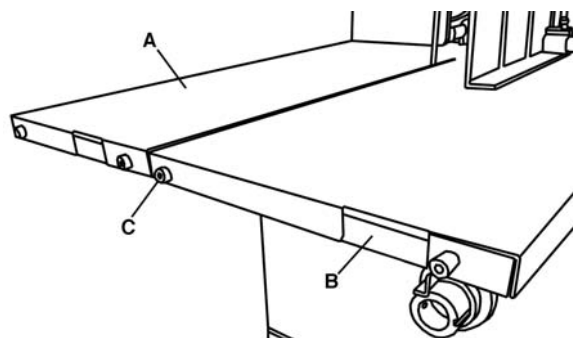
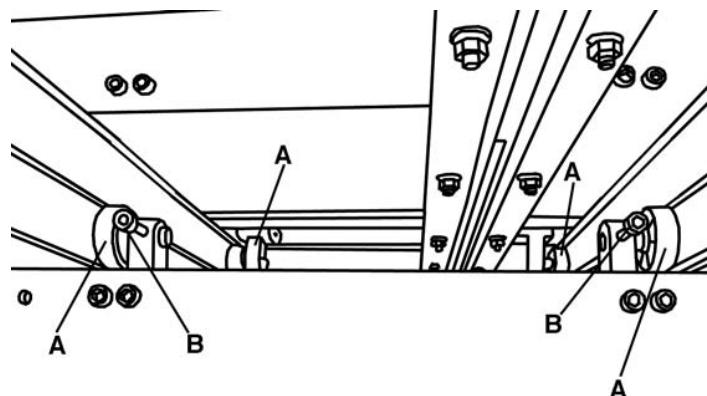

FIGURE 11
FIGURE 12
This Meat Bandsaw comes with a sliding table (A) Fig.11. The sliding table has 2 sliding rails underneath it. Align these rails with the table rollers (A) Fig.12 and slide the table towards the blade, make sure you slide the slotted end of the table towards the blade first. To prevent the table from sliding off the base, install the table bracket (B) Fig.11 to the slotted end of the table using cap screws (C) Fig.11.
Adjusting the sliding table may take some trial and error. It is important that the table slides correctly and that the blade does not make contact with the table. The position of the adjustable table rollers (A) Fig.12 can be adjusted inwards or outwards. To adjust a table roller position, loosen cap screw (B), adjust the table roller position and retighten cap screw, check your adjustment and repeat if necessary.